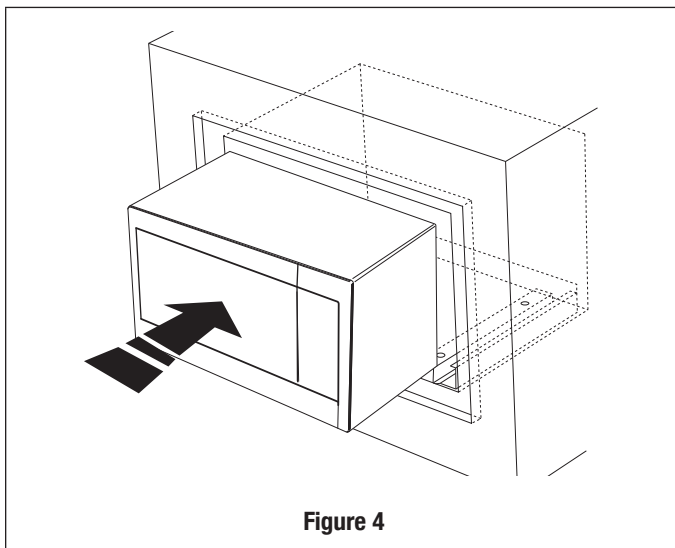
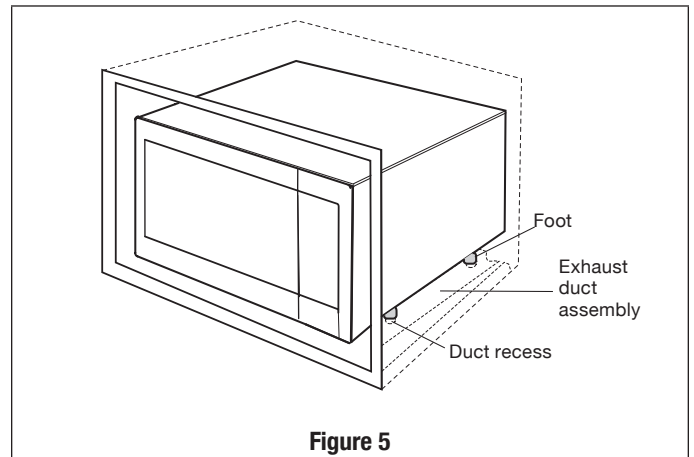

Figure 4
Figure 5
2. Carefully guide the assembled oven into the prepared opening. Slide the oven onto the EXHAUST DUCT ASSEMBLY. See Figure 4. Avoid pinching the cord between the oven and the wall. Adjust the position of the oven so that the feet of the oven are fitted into the recesses of the EXHAUST DUCT ASSEMBLY and the door opens properly. See Figure 5.